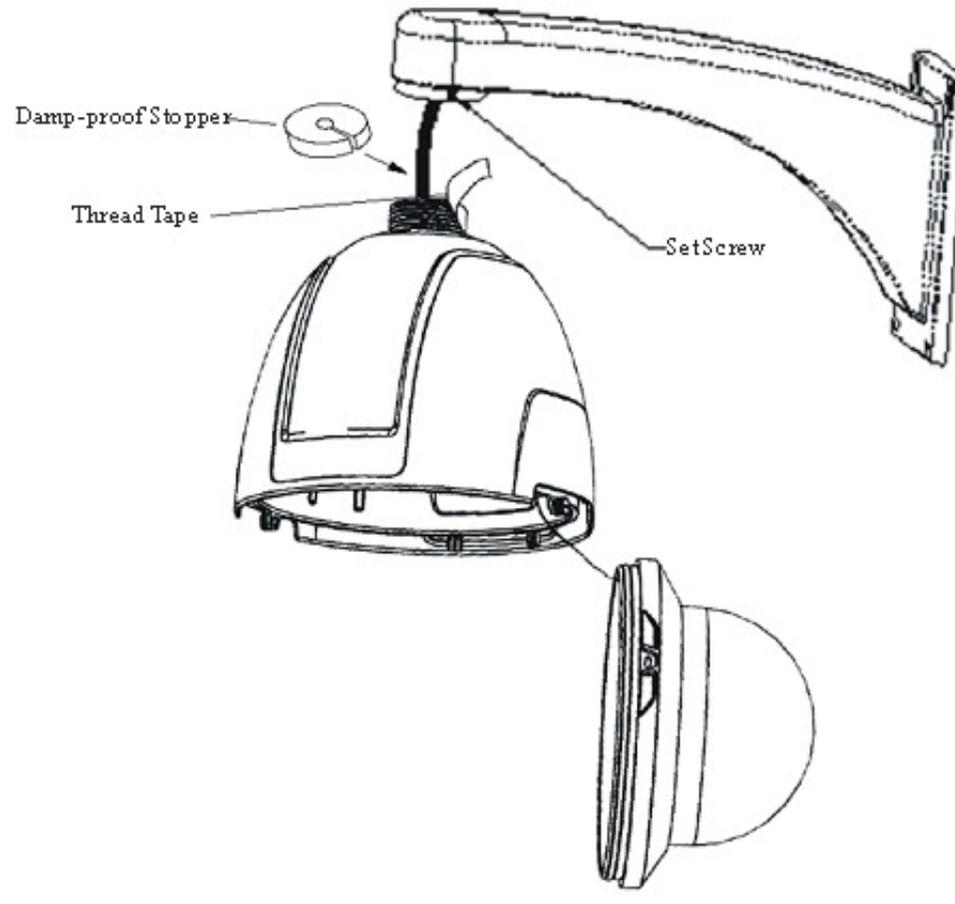

Figure 1.4.5 Attach Back Box to Mount
**For your attention:** For outdoor installation, please apply the thread compound and the damp-proof stopper to threads of the back box and the mount. After having made connections of the power cord, video cable, RS-485 control line and alarm input/output lines (if required), close the hinged door and tighten the set screws, as shown in Figure 1.4.5.